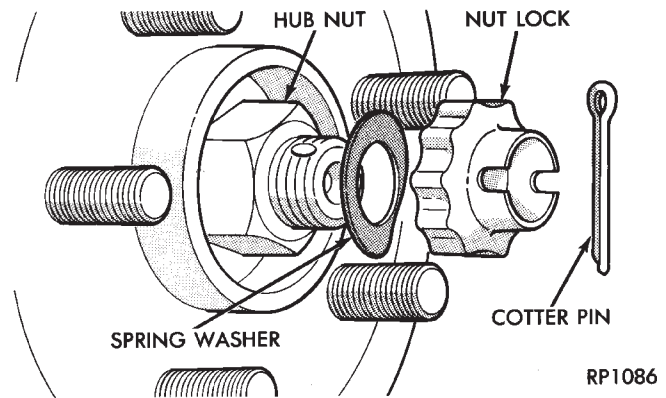

Fig. 3 Cotter Pin, Nut Lock, and Spring Washer
- (1) Lift vehicle on hoist so that the wheels hang freely.
- (2) Remove rear wheel.
- (3) Remove cotter pin, nut lock and spring washer (Fig. 3).